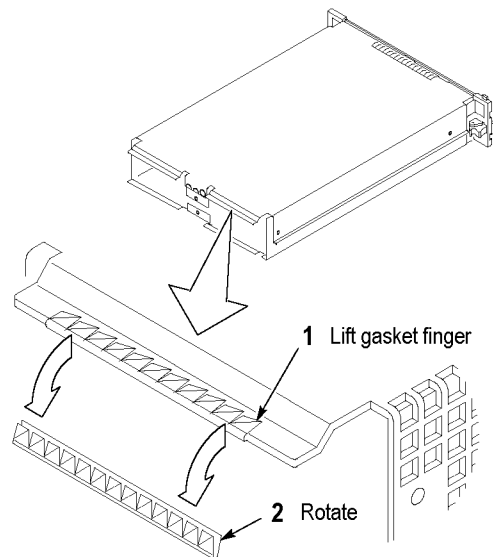

Figure 21: Rear EMI gasket removal
- c. Lift the gasket fingers and rotate the gasket off. (See Figure 21.)